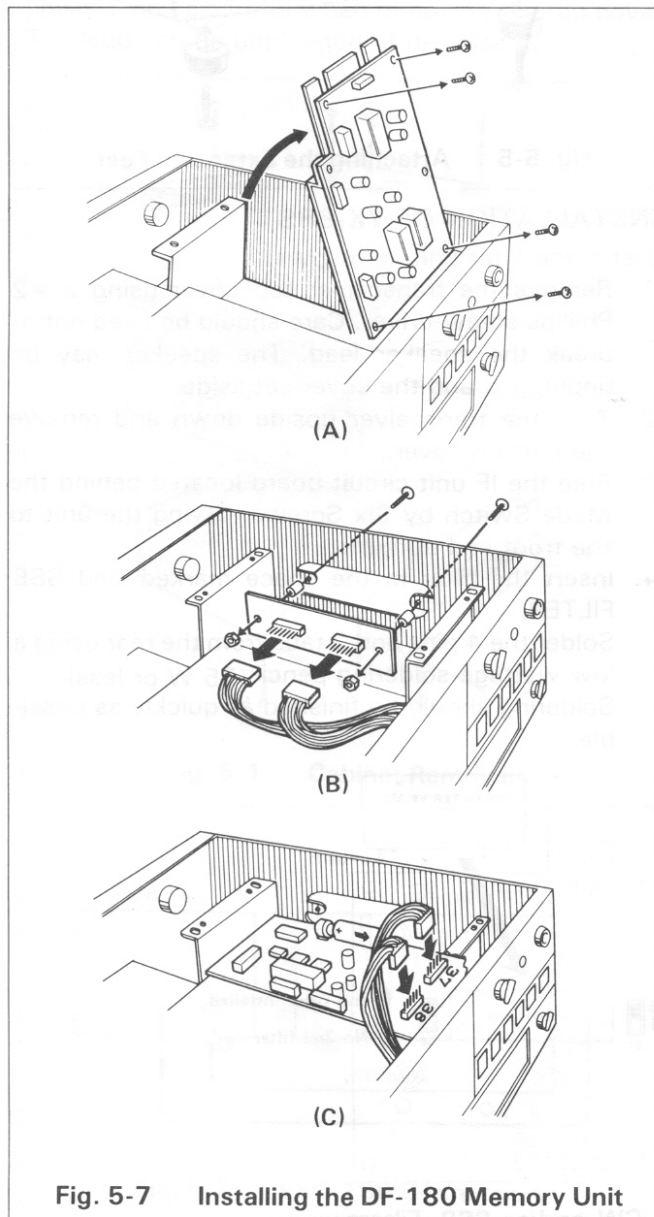

Fig. 5-7 Installing the DF-180 Memory Unit
4. Swing the IF unit upright as shown in Fig. 5-7 (A).
- * Tilt the IF unit upright as shown in Fig. 5-7 (A).
- * Remove the dummy printed-circuit board shown in Fig. 5-7 (B) by removing two screws and two nuts and remove the two connectors attached to the dummy printed-circuit board.
- * Connect the DF-180 to the TS-180S as shown in Fig. 5-7 (C)